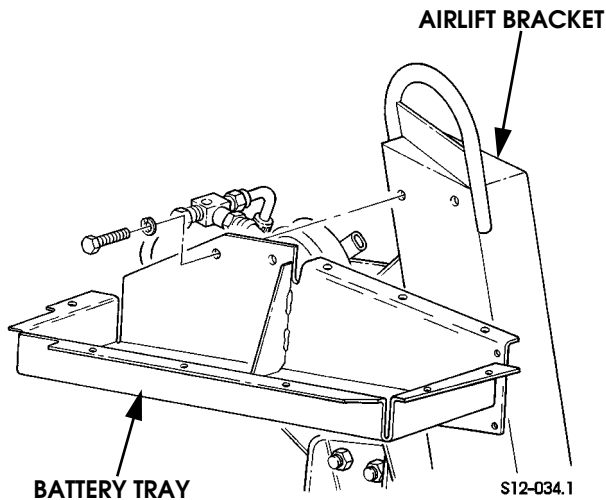

Figure 12-12: Battery Tray
3. Remove battery tray from airlift bracket (Figure 12-12).